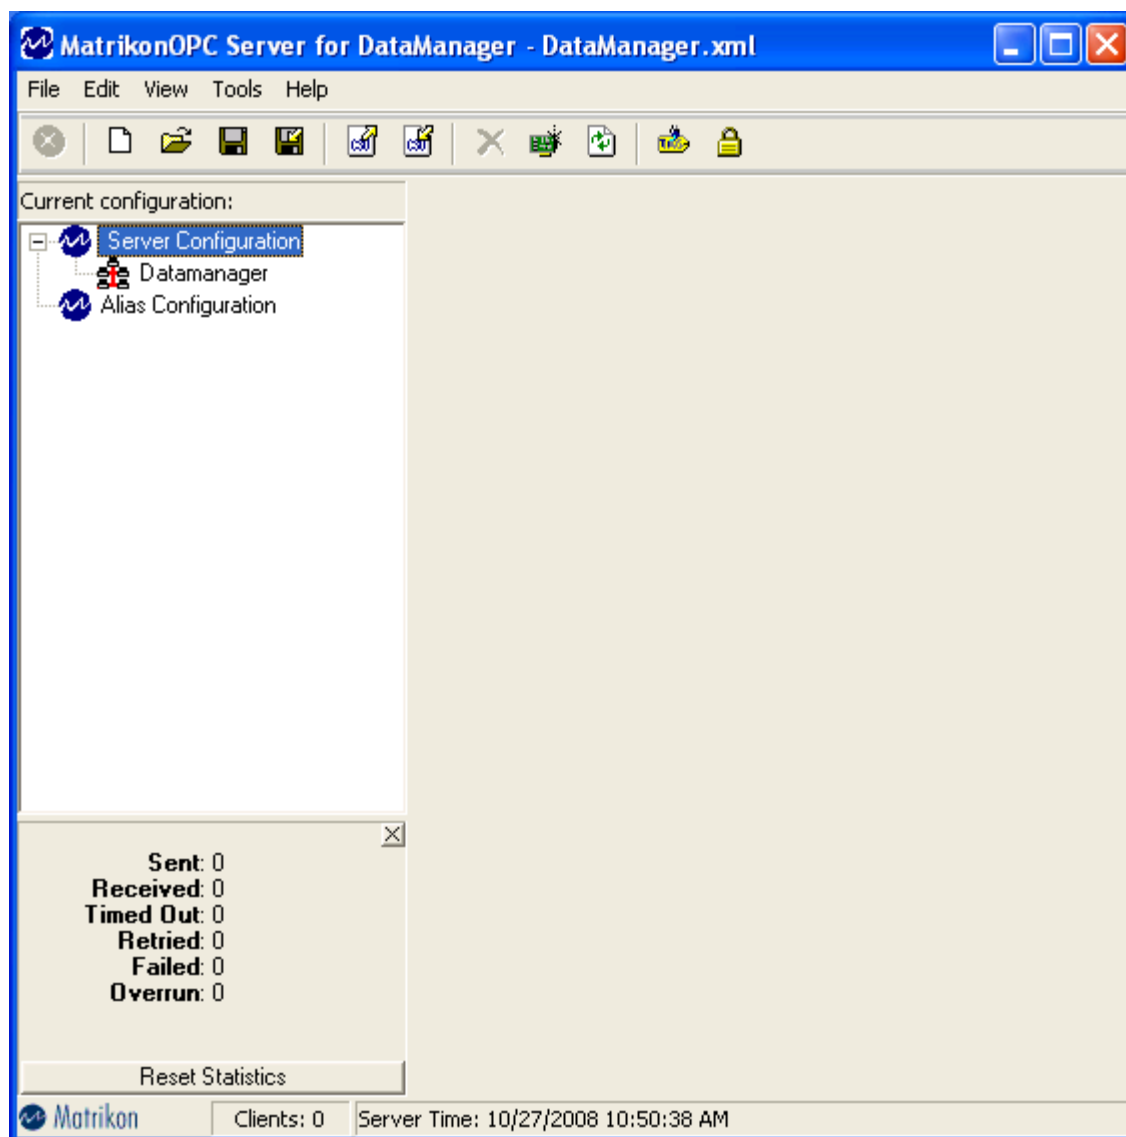

Figure 47 - Configuration Window
- The **Configuration** window (Figure 47) appears.